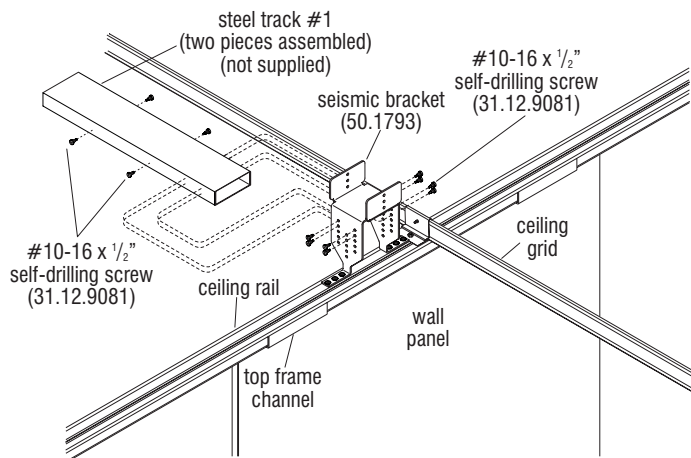

Figure 3 - Off-Center Seismic Bracing - Steel Track #1 to Seismic Bracket
2. Create steel track #1 length first to reach from the installed seismic bracket, over to a location where steel track #3 can reach vertically up to structure above (see Figure 4 for assembly reference). Steel track #1 will be made of two identically cut lengths of track fastened together and will not require any cuts for a bend (Detail B). It must extend horizontally from the seismic bracket to the location where steel track #2 can attach to it. Take into account that steel track #2 will bend up at an angle to the appropriate structure above (see Figure 4 for assembly reference). Once the length is determined for steel track #1, cut two pieces of the track material to equal size and nest them together. The open "channel" sides should be facing each other and will fit together with their side flanges offset from each other (Detail B). Secure both tracks together at the side flanges with #10-16 x 1/2" self-drilling screws (31.12.9081) (Figure 3).
3. Install steel track #1 to the seismic bracket by placing one end inside the installed seismic bracket such that the side flanges of the tracks mate inside the bracket at the top four mounting holes on each side. This allows for maximum room to re-install ceiling tiles. Secure steel track #1 to the seismic bracket with eight #10-16 x 1/2" self-drilling screws (31.12.9081) as illustrated (Figure 3 & Detail C).